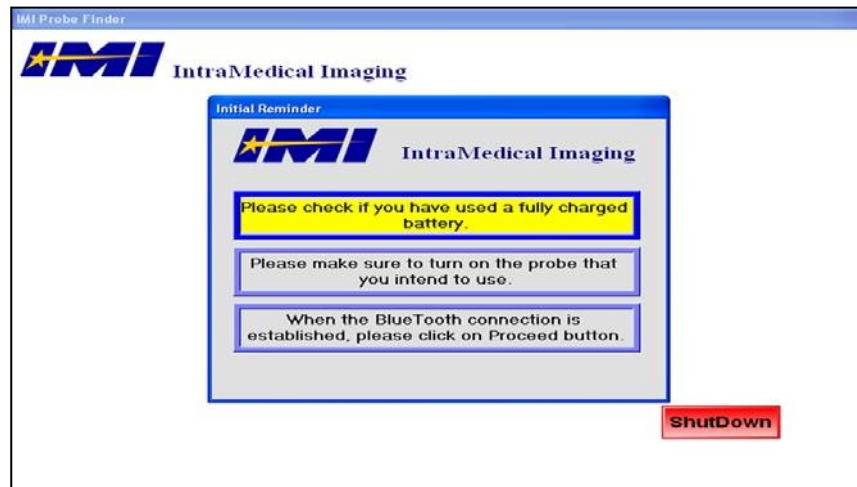

Figure 5: Probe Finder Screen, Looking for Probe
Wait while the computer "boots up." It will boot directly into the *Probe Finder* applet. See Figure 5, below. At this time, the Control Unit is looking for any IMI Wireless Probe and the yellow highlight will cycle through the three notes.
- **Changing Probes** – Pressing the *Change Probe* button generates a confirmation dialog box. When the user responds by pressing *Yes (I am sure)*, the system goes back to the Probe Finder screen of Figure 5, allowing another selection to be made. Pressing *No* in the confirmation dialog cancels the operation and the same Probe remains in use.